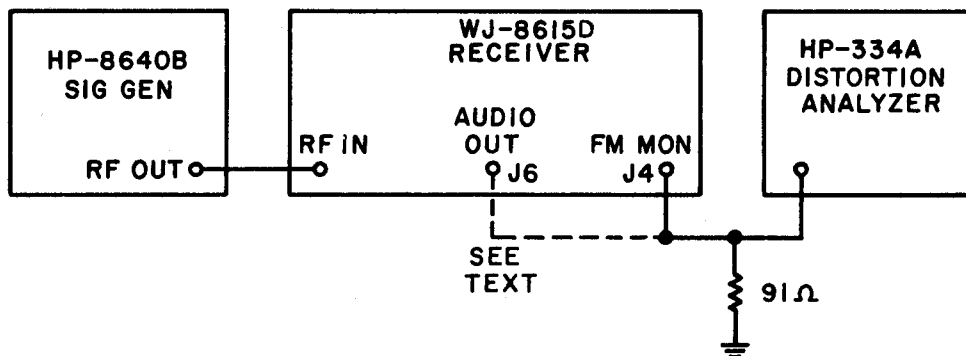

Figure 4-2. AM-FM Demodulator Performance Test, Equipment Connections
- 1) Connect the test equipment as illustrated in **Figure 4-2**.